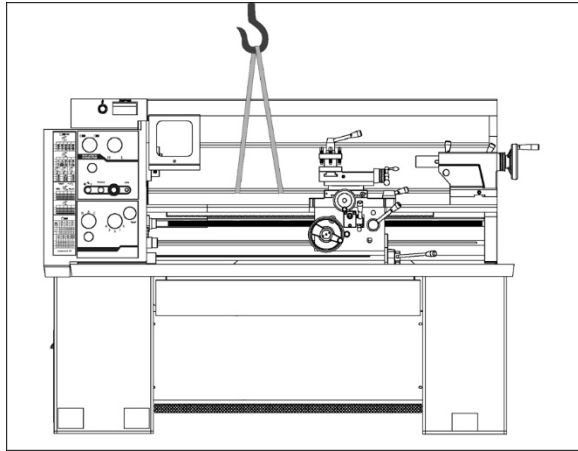

Figure 6-2
- With proper lifting equipment, slowly raise lathe off shipping pallet. (See Figure 6-2). **Do not lift lathe by the spindle. Do not place slings around bed – this can bend leadscrew and feed shaft.**